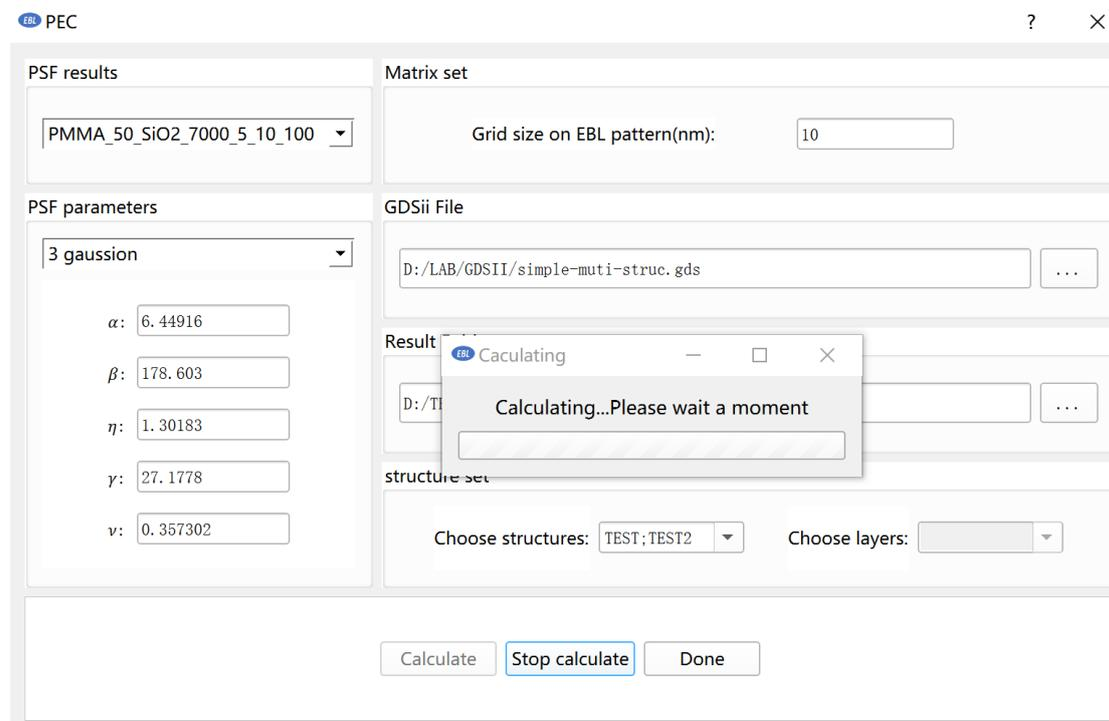

Figure 2.2.7 PEC calculation interface
(9) You can click "Calculation" (as shown in Figure 2.2.7) to perform PEC calculation, and the cost time will be displayed after the calculation is completed (as